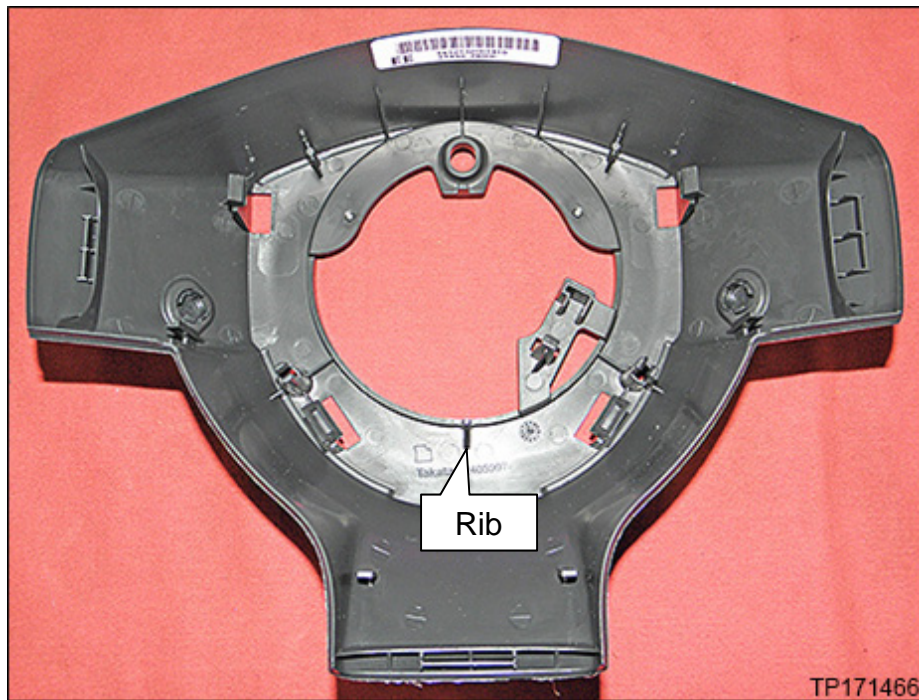
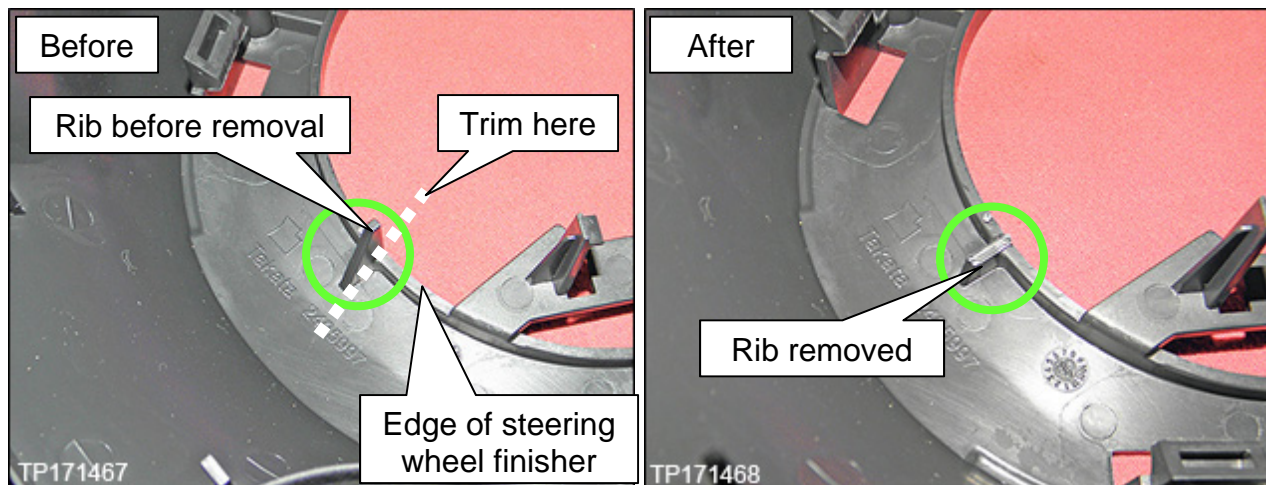

Figure 16
Figure 17
16. Remove the rib shown in Figure 16 and Figure 17 of the steering wheel finisher with an appropriate tool.